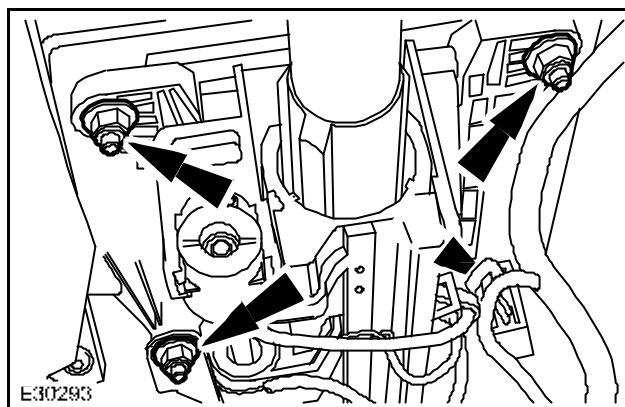

Fig. 3
- 6 Undo and remove steering column to body securing nuts. (See Fig. 3)